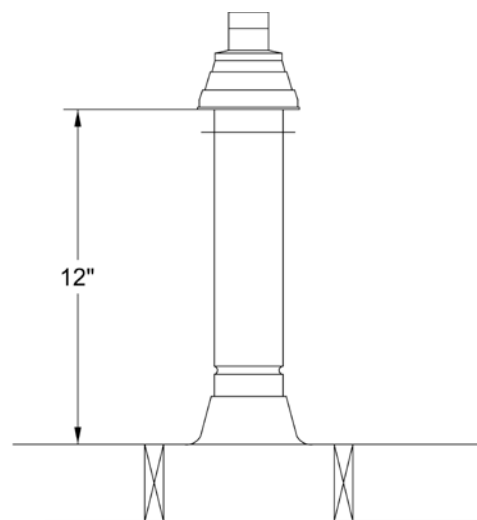

Figure 21: Fixed Extension (Non-Cuttable)
- b. The remaining Concentric Vent Fixed Extensions shown in Table 8 **CANNOT BE CUT**. These pipes have beaded male and beaded female ends. See Figure 21 'Fixed Extension (Non-Cuttable)'.